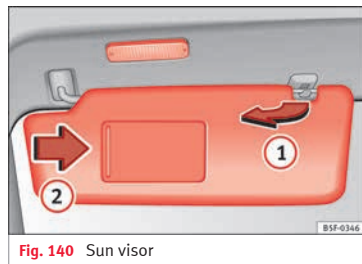

Fig. 140 Sun visor
- The sun visor can be pulled out of its mounting and turned towards the door »» Fig. 140 ①.